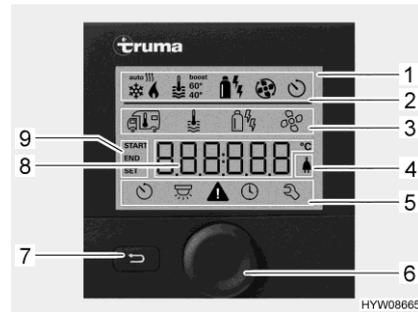
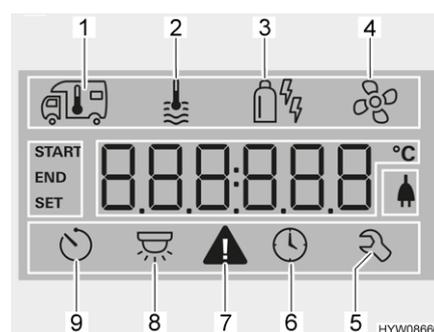

Fig. 80 Operating unit with displays
Fig. 81 Display (operating unit)
- Status line (Fig. 80,2)
- Upper menu line (Fig. 80,3)
- Display area (Fig. 80,8)
- Lower menu line (Fig. 80,5)
- Press and hold the rotary push button (Fig. 80,6) for approx. 3 seconds. Both menu lines (Fig. 80,3 and Fig. 80,5) are displayed. The first symbol flashes.
- Turn rotary push button (Fig. 80,6) until the required menu symbol flashes.
- Press rotary push button to save the value set. If you do not wish to change the value originally set: Press back button (Fig. 80,7).
- Turn rotary push button (Fig. 80,6) until the heater menu symbol (Fig. 81,1) flashes.
- Press rotary push button to save the value set. The symbol in the status line (Fig. 80,2) flashes until the room temperature set is reached. If you do not wish to change the value originally set: Press back button (Fig. 80,7).
- Turn rotary push button (Fig. 80,6) until the hot water menu symbol (Fig. 81,2) flashes.
- Press rotary push button to save the value set. The symbol in the status line (Fig. 80,2) flashes until the hot water temperature set is reached. If you do not wish to change the value originally set: Press back button (Fig. 80,7).
- Turn rotary push button (Fig. 80,6) until the menu symbol operating mode (Fig. 81,3) flashes.
- Press the rotary push button to save the set operating mode. To revert to the original setting: Press back button (Fig. 80,7).
- Turn rotary push button (Fig. 80,6) until the fan menu symbol (Fig. 81,4) flashes.
- Turn rotary push button (Fig. 80,6) until the timer menu symbol (Fig. 81,9) flashes.
- Press rotary push button. The timer is activated. The timer symbol (Fig. 81,9) flashes when the timer is programmed and active.
**Fault display** The warning symbol (Fig. 81,7) flashes in the event of a warning. The heater continues to operate. In the event of only a temporary fault, the warning symbol goes out automatically.